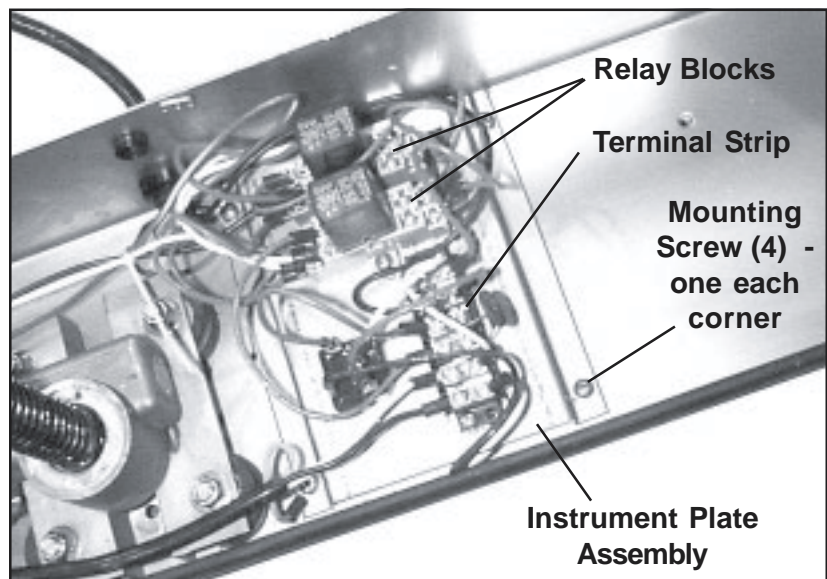

Figure 35. Instrument Plate Assembly & Mounting Screws
14. With a Phillips screwdriver, unscrew the four mounting screws on the instrument plate assembly (Figure 35).